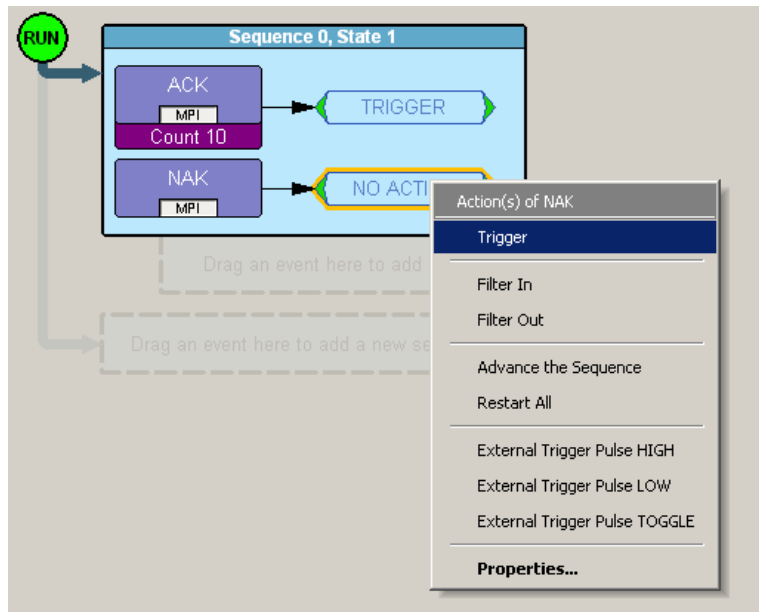

Figure 7.26 Example 3: Assigning the Action
Step 4 Right-click the **NAK** button. From the Action pop-up menu, select **Trigger** (Figure 7.26).